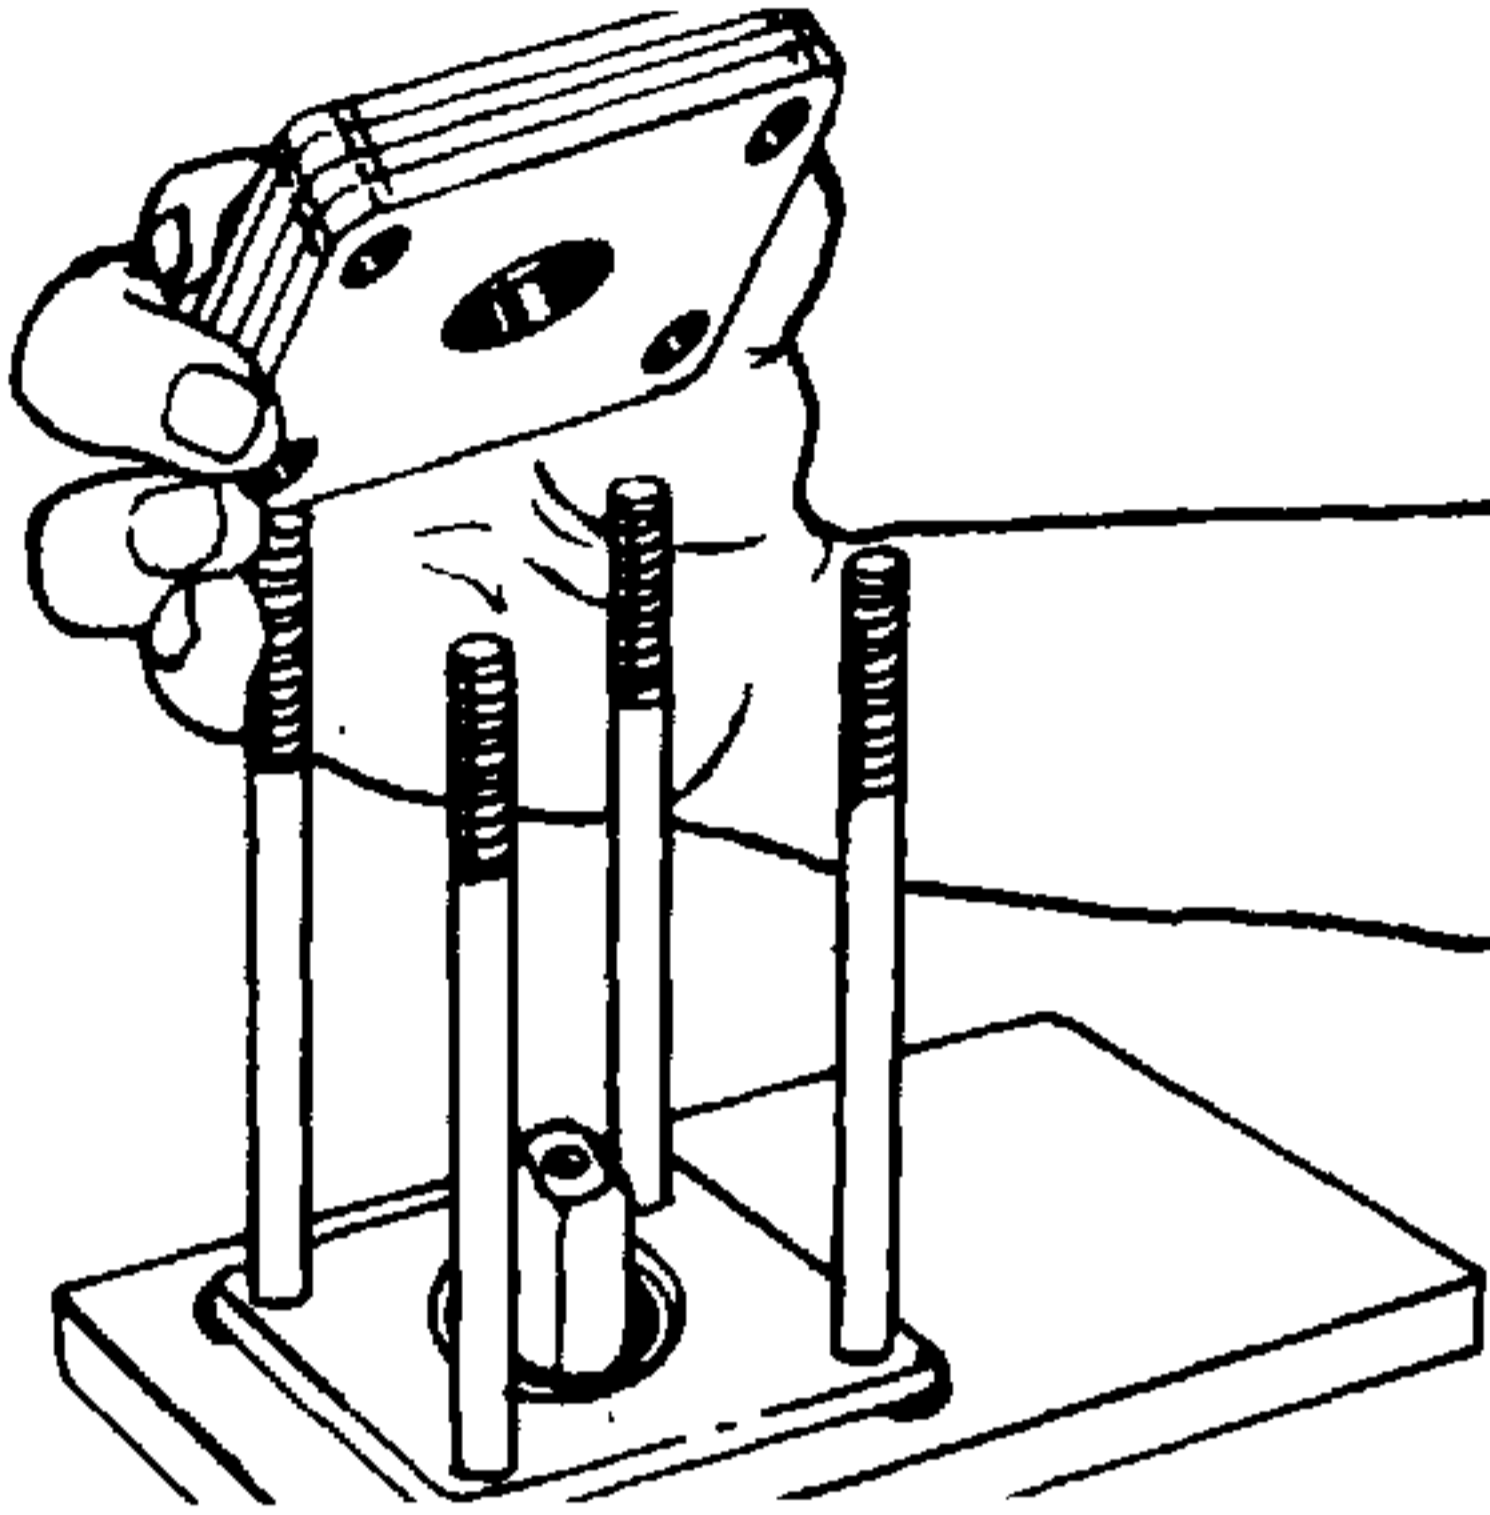

Figure 4-35. Removing Upper Cover Plate.
41. Remove the upper cover plate (30) (four plates bonded together). Inspect the upper cover plate. You should notice some polishing due to the action of the seal. The plate should be free of brinelling (dents) or spalling (flaking). If it is damaged, the upper cover plate must be replaced. See Figure 4-35.